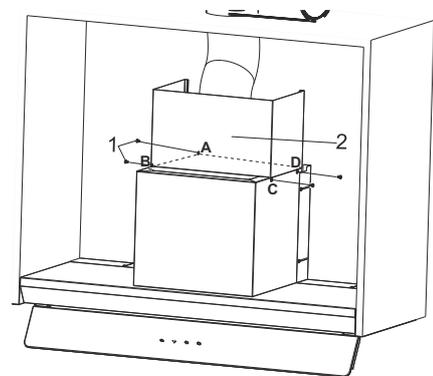

Fig. 16
5. ➤ Place the supplied sheet metal flues on the product (Fig. 16). Using the 4 connection screws through the A, B, C, D points to the appliance body (Fig. 16).